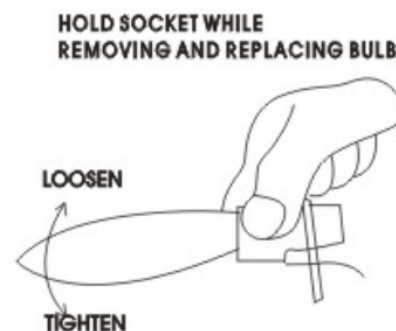

Fig. 8
4. Examine the bulbs to determine which one needs replacing. Remove the non-working bulb and replace with a new bulb. Hold the socket while unscrewing the old bulb and while screwing in the replacement bulb. **Figure 8**